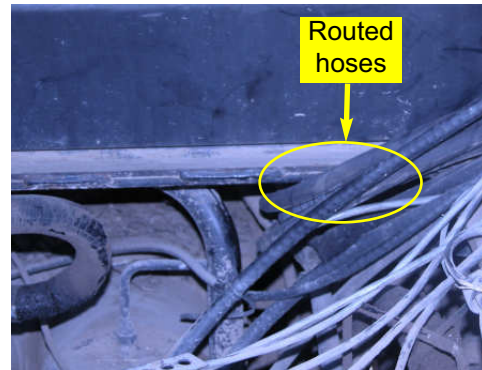

Figure 6c. Routed steering hoses.
- d. The steering hoses (H) should be routed from the Automated Steering Block between the cab and fender, then to the steering orbital. Use the heavy tie-straps that are provided to secure the hoses away from moving parts. (Figure 6c.)